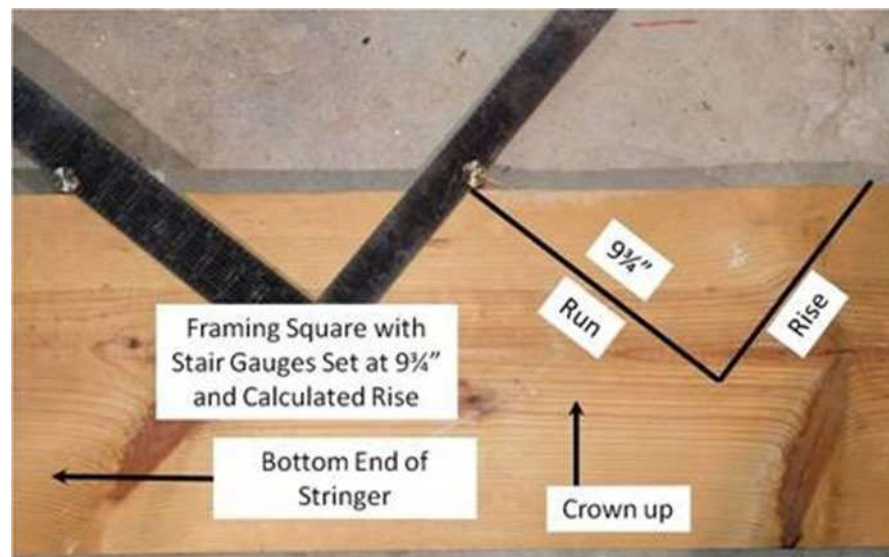

Figure 4-6. Stair Stringer Layout.
2. Attach stair gauges to the framing square and locate the precise dimensions calculated in Section 4.5.1 for run and rise. If the rise is $7\frac{3}{4}$ ", set the gauge to this dimension on the short side of the square; set the gauge to $9\frac{3}{4}$ " on the long side of the square (see Figure 4-6).